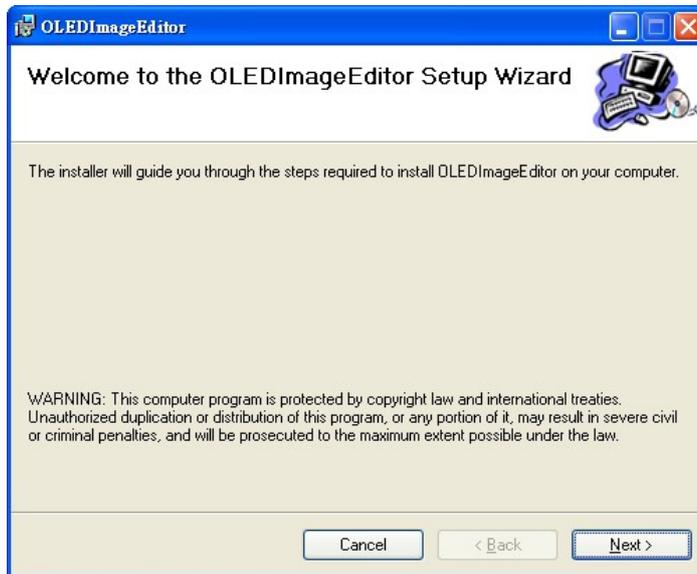
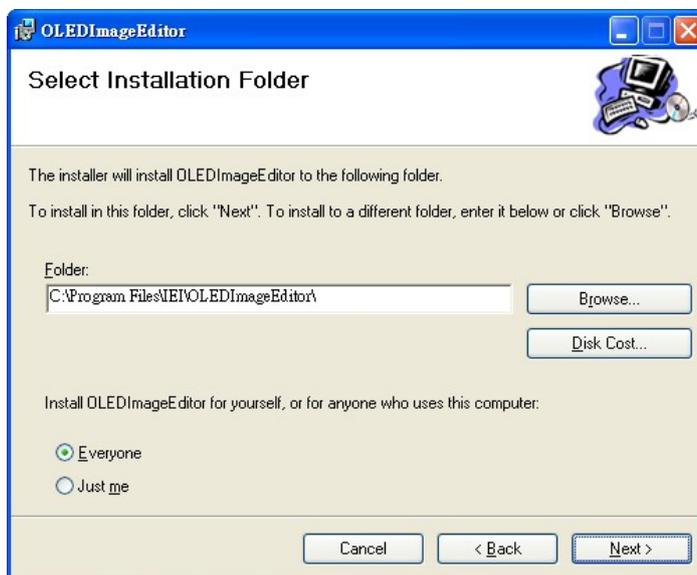

Figure 6-1: OLED Image Editor Setup Wizard
Figure 6-2: Select Installation Folder
- Step 3:** The OLED Image Editor Setup Wizard welcome window appears (**Figure 6-1**). Click **Next** to start.
Step 4: Select a folder for OLED Image Editor Installation in **Figure 6-2**. Click **Next** to continue.
The DRPC-100 embedded system motherboard comes with a number of peripheral interface connectors and configuration jumpers. The connector locations are shown in **Figure 6-1** and **Figure 6-2**. The Pin 1 locations of the on-board connectors are also indicated in the diagrams. The connector pinouts for these connectors are listed in the following sections.